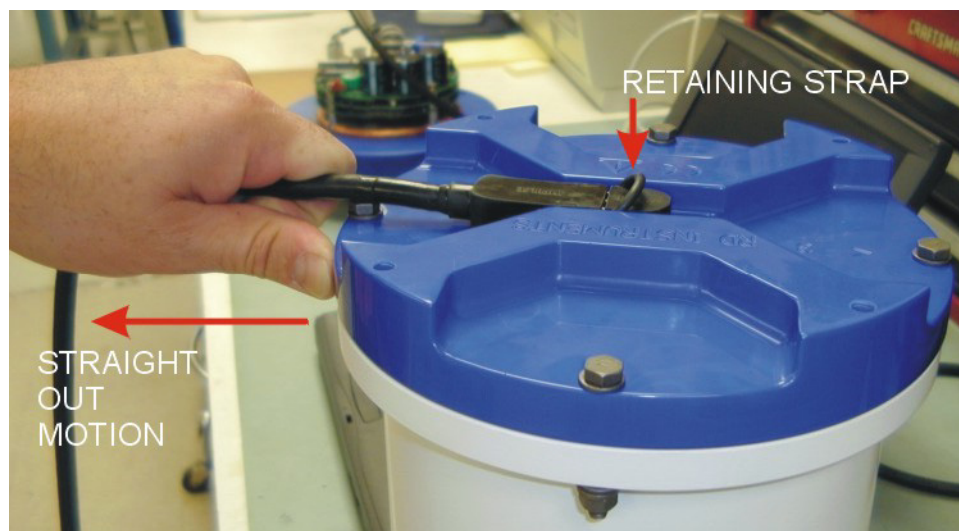

Figure 1. Removing the I/O Cable
- b. Grasp the cable close to the end-cap (see Figure 1). Your thumb should rest on top of the connector or against the edge of the end-cap. *Do not try to fit your hand under the cable as it passes over the end-cap.* This is what causes the upward force!